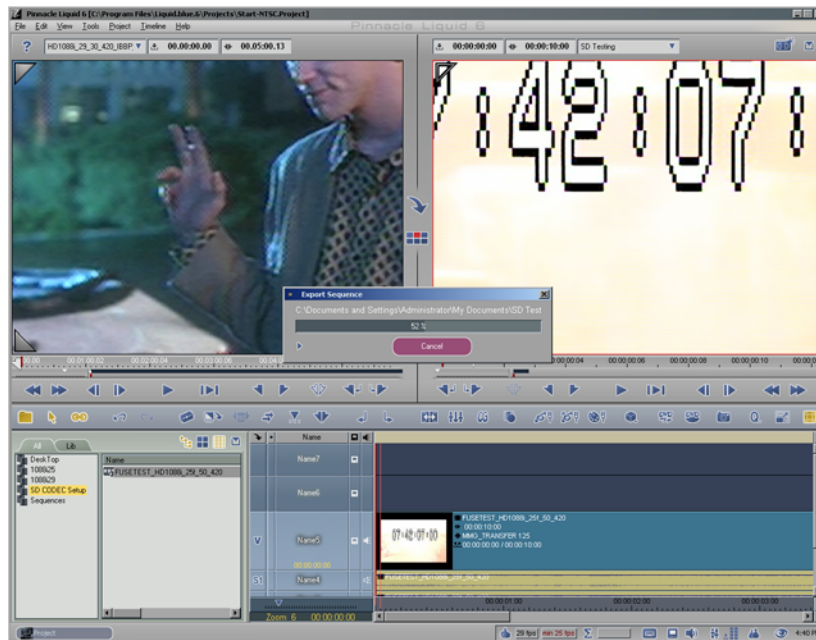

Figure 3-39: Fuse Sequence Progress
- Click OK in the Fuse Sequence dialog that appears. As the fuse begins, your screen should look something like this (Figure 3-39):
4. Click OK in the Fuse Sequence dialog that appears (see Figure 3-39 on page 38).
6. Click OK in the Fuse Sequence dialog that appears (see Figure 3-39 on page 38).
6. Click OK in the Fuse Sequence dialog that appears (*see Figure 3-39 on page 38*).